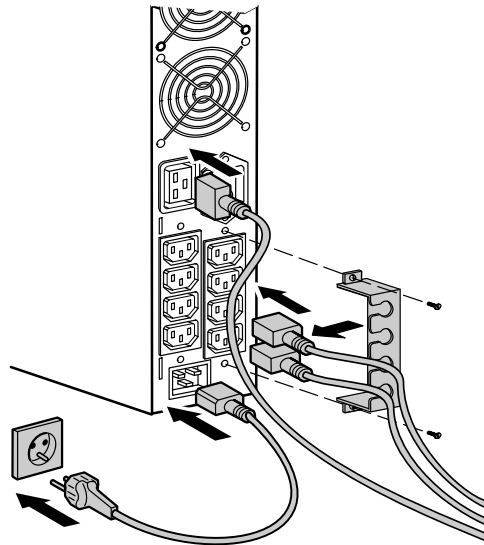

Figure 10. Installing the Power and Equipment Cords (High-voltage only)
5. Plug the equipment to be protected into the appropriate UPS output receptacles (see page 42 for more information on load segments). See Figure 10.
6. **High-voltage models only.** Install the cord-retention bracket to secure the cords and provide strain relief (see Figure 10).